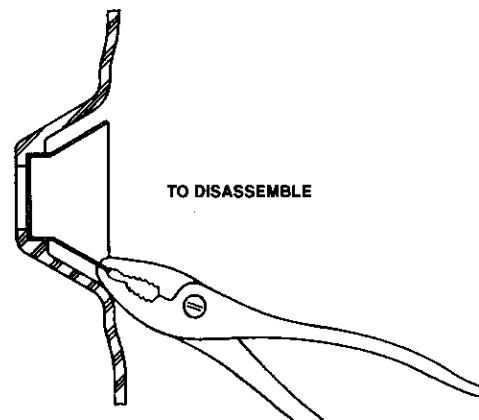

Figure 12
- Remove copper insert as shown in Figure 12. do not deform.